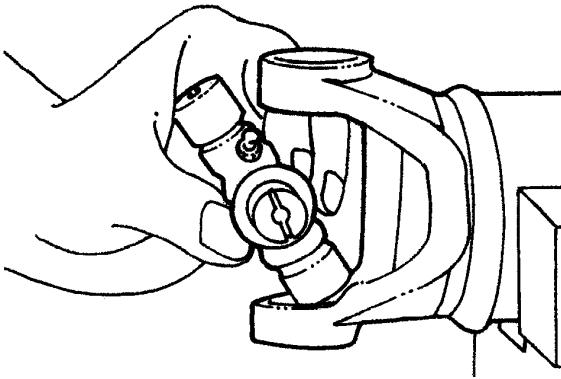

Figure 19 Position Cross in Propeller Shaft Yoke
3. Position cross in the propeller shaft yoke with its lube fitting on the inboard side (towards propeller shaft) (Figure 19).